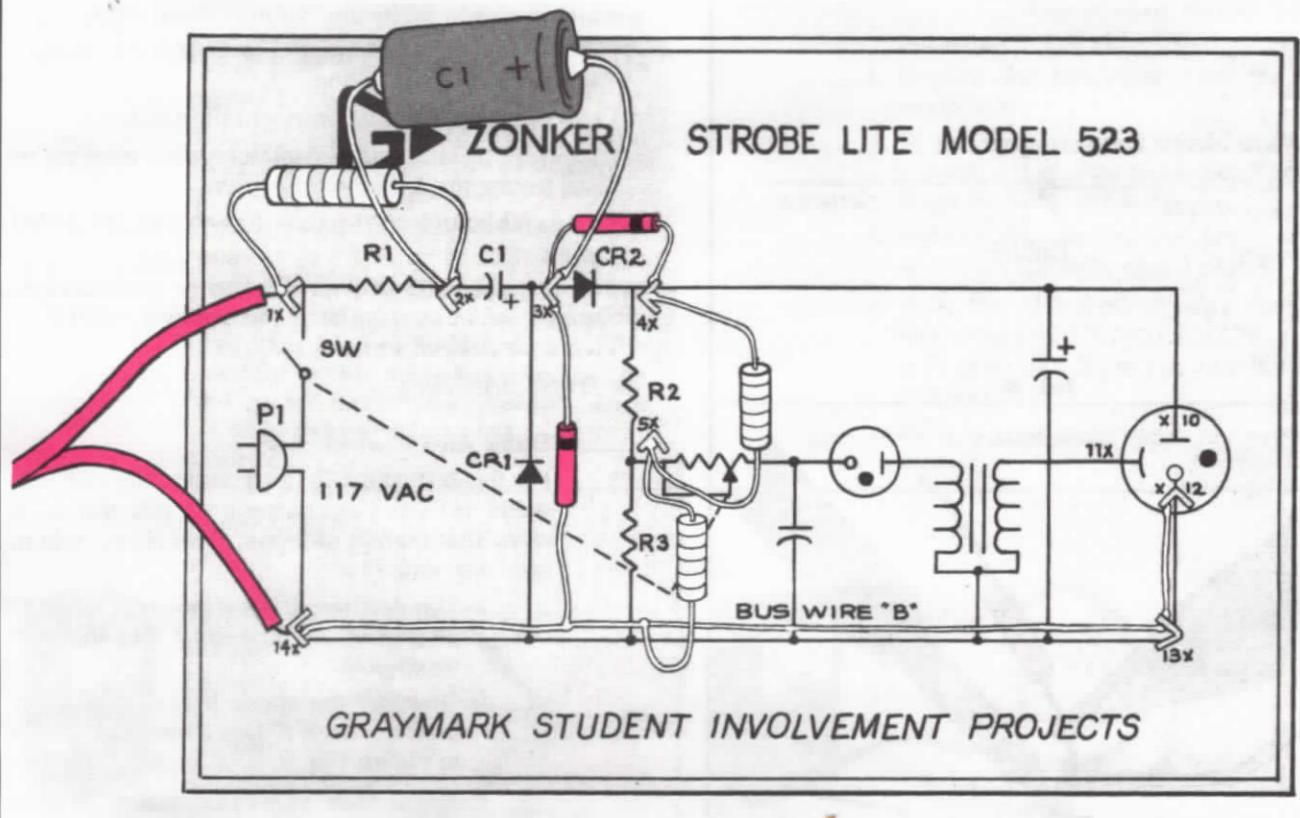
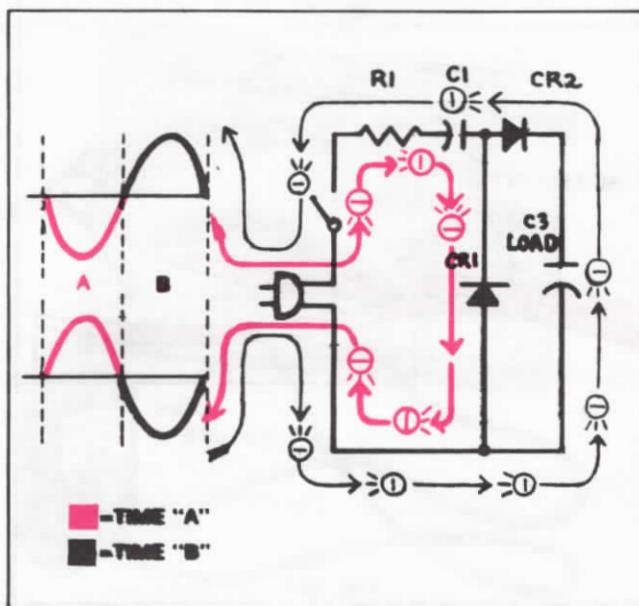

FIG. 13
FIG. 15
The polyurethane panel, with the Zonker schematic diagram attached, will serve as a breadboard base (See Figure 13) upon which you will construct your experimental circuits. DO NOT CUT THE LEADS of any components unless instructed to do so, because these components will be used for constructing other circuits.
- 2. Push a soldering pin into the breadboard panel at X marks 1, 2, 3, 4, 5, 12, 13, and 14 on the schematic. (Refer to Figure 13).
- 4. Connect and solder the positive (+) lead (lead nearest "+" on capacitor) of the voltage doubler capacitor C1, 2.2 mfd, 350 WV, electrolytic, to pin 3. Connect and solder the other lead (-) to pin 2. (See Figure 13.) This capacitor will store a voltage charge from the line cord during one half of the AC cycle and will release this voltage during the second half of the cycle. Refer to Figure 15.
- 12. This completes the construction of the voltage doubler circuit. Check all your soldering connections, component placement, and wiring and compare your breadboard to the illustration in Figure 13.